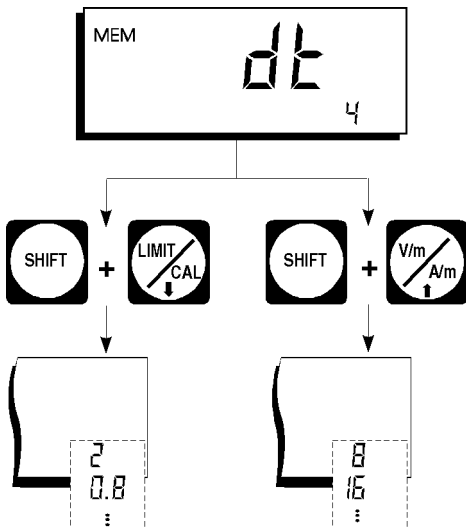

Figure 4-28 Altering the spacing interval (sec)
- Press SHIFT+ ↓ (↑). The next lower (higher) spacing interval should appear in the small display (Figure 4-28). Continue pressing SHIFT+ ↓ (↑) to activate each available spacing interval in turn.